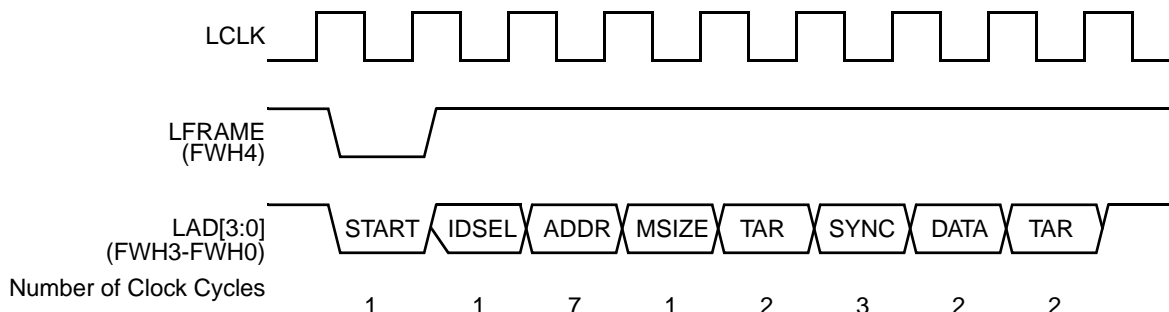

Figure 4-45. FWH Read Cycle
**FWH Read Cycles:** A read cycle is initiated by asserting 1101b on LAD[3:0] with LFRAME# low. All data transfers are valid on the rising edge of the LCLK. The cycle is illustrated in Figure 4-45 and described in Table 4-27.